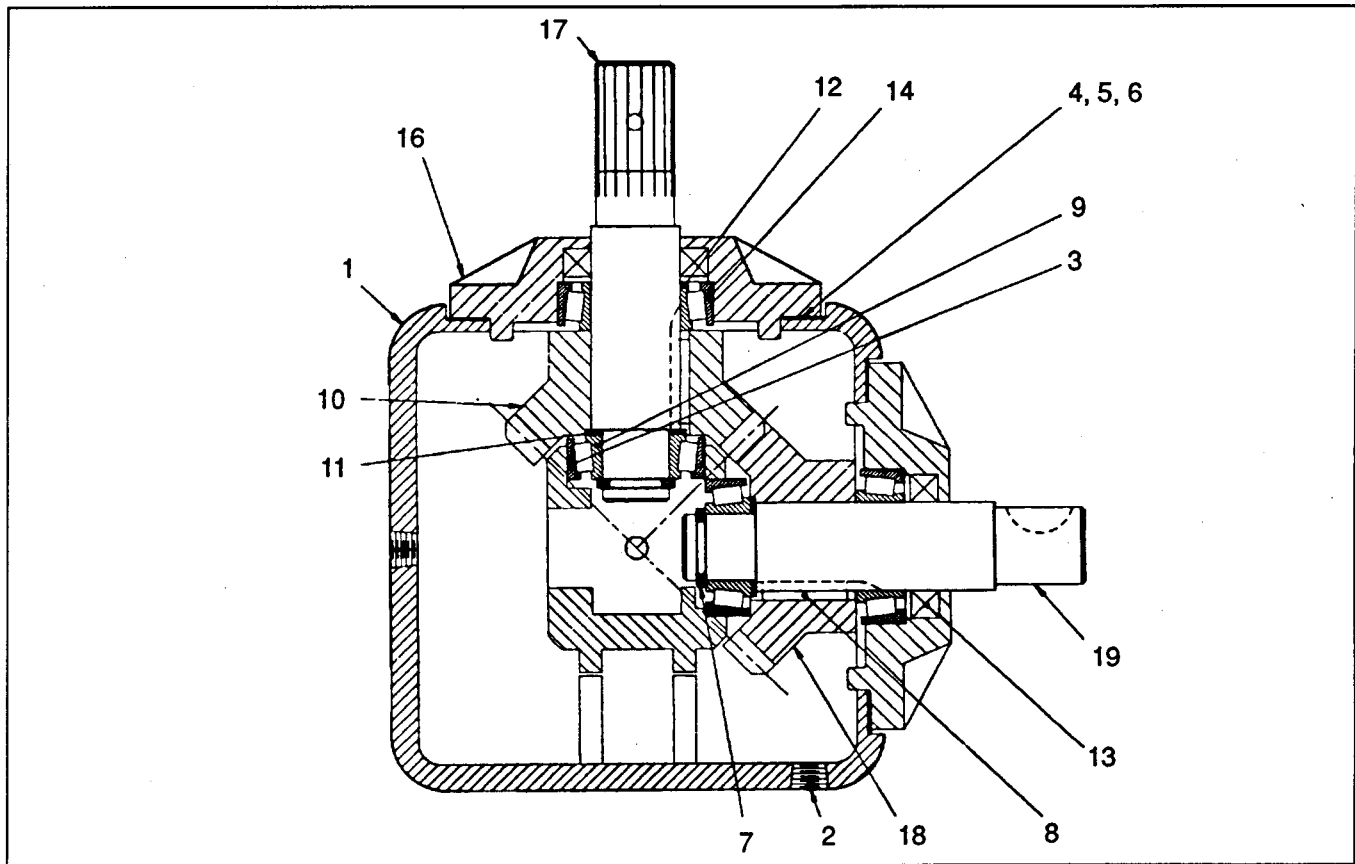

Figure 42B
2. Install one set of shims (Item 11) onto the turned end of the shaft. Press one of the bearing cones (Item 9) over the turned end of the shaft. Be sure the bearing cone is installed as shown in the illustration (Fig. 42B). Install a retaining ring (Item 7) on the turned end of the shaft.